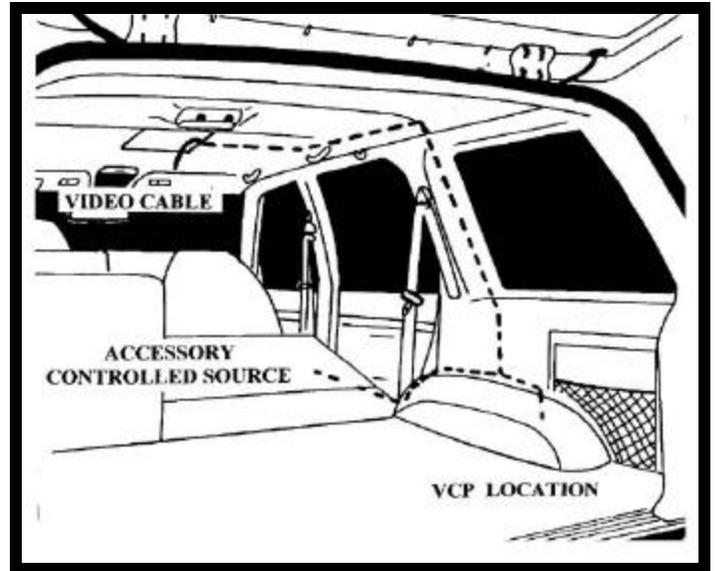

FIGURE 4
5. Install and route all video and audio cables, and any other added component requirements to their respective places in the vehicle. Refer to component installation instructions for wiring diagrams. The suggested routing of the video system cable is as follows: Above the headliner from video system to B-pillar. Rearward to the C-pillar. Down the C-pillar to the floor. Route the power lead to an accessory controlled source. Connect the ground lead to the vehicle chassis. Route the remaining wiring (RCA plugs, Remote Sensor extension, etc.) to the VCP location. See Figure 4. Connect per instructions included with the video system. If video system is to be used as a television, install an appropriate antenna per instructions included with the antenna.